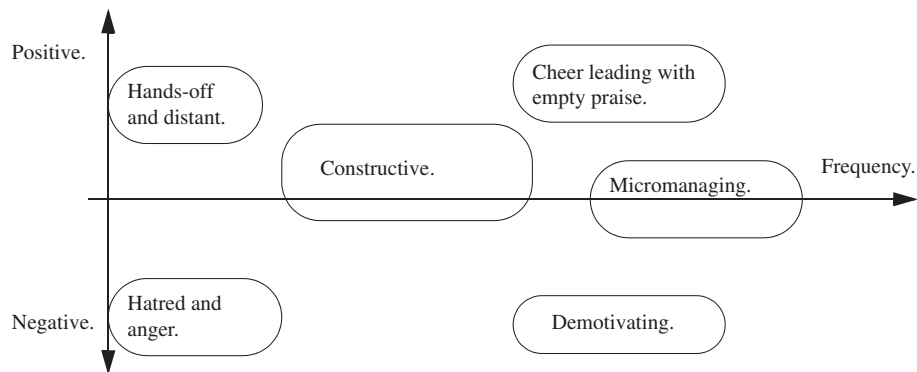

FIGURE 4.19
Accountability can be more difficult. As a manager you will be able to review work and look for positive contributions, even if they are not what you expected. The key is to (1) recognize the positive outcomes as beneficial, (2) provide constructive feedback about items that do not meet the needs, and (3) discuss a win-win approach to increased responsibility. The other issue is how frequently feedback is offered. Depending on the level of authority this may be daily, weekly, or monthly. Most organizations do an annual review which is meant to be comprehensive, to adjust salaries. Figure 4.19 shows a spectrum of feedback content and frequency. The ideal strategy is regular feedback, but not intervention, with positive feedback and constructive suggestions. The worst case is infrequent and inconsistent feedback that is punishment oriented.